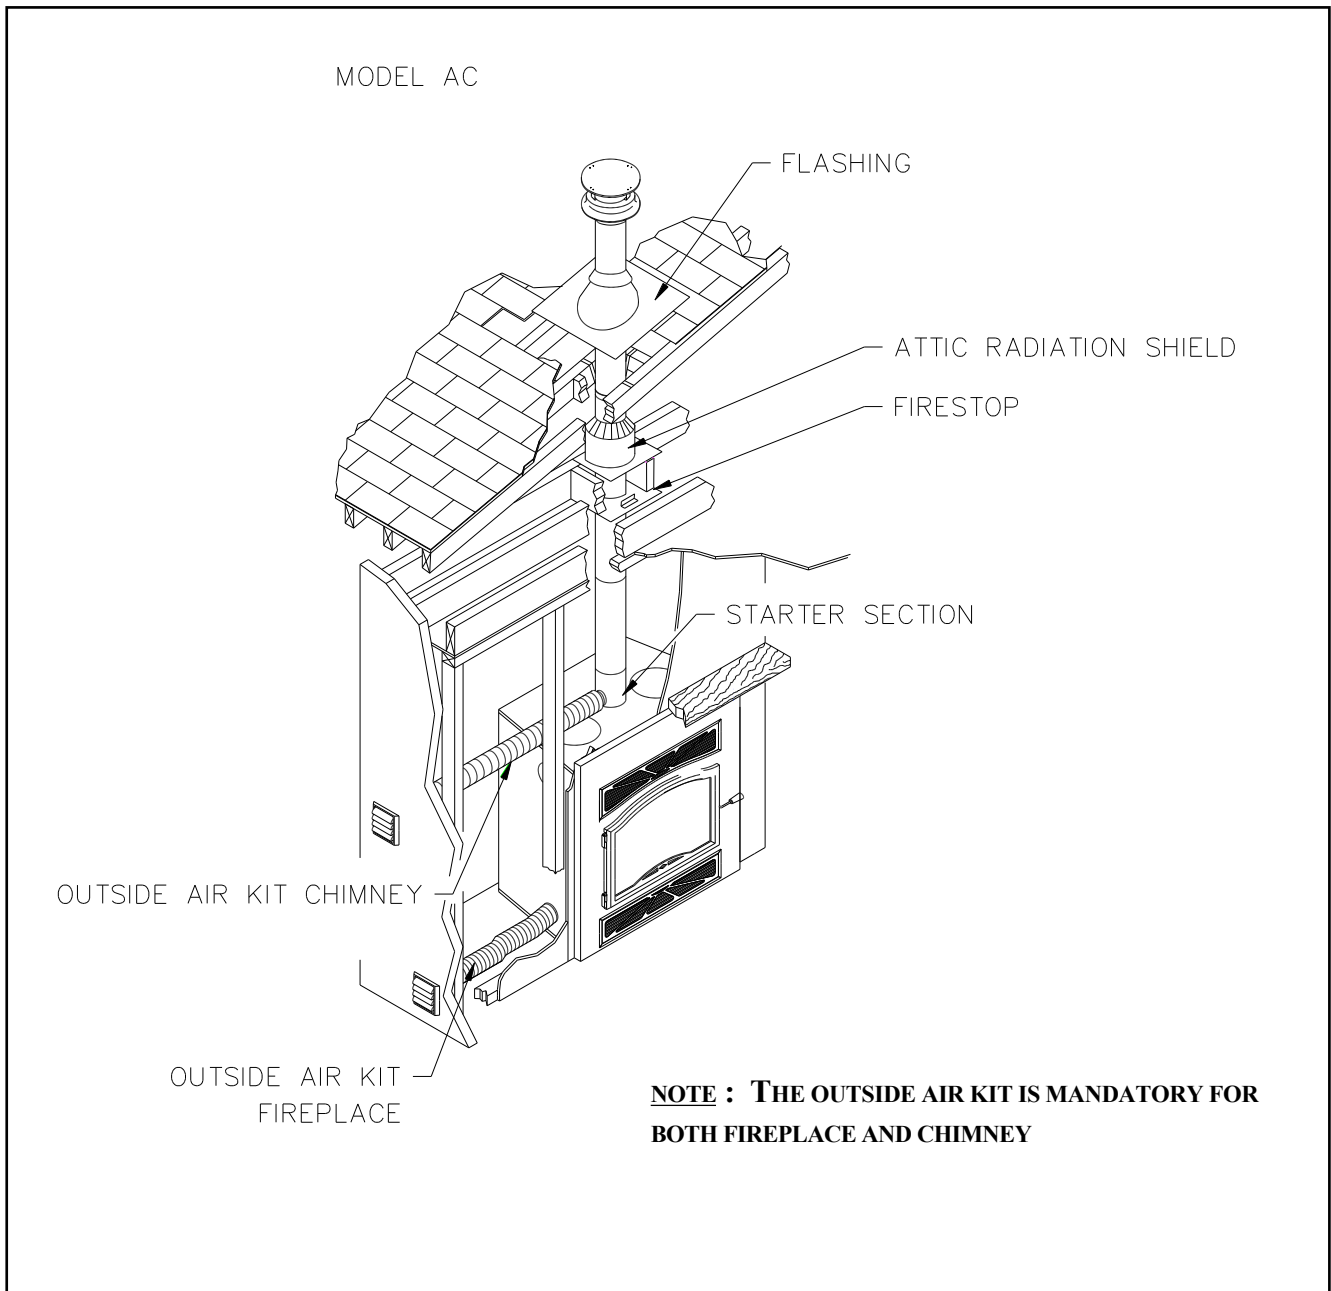

Figure 28
3. For Secure Temp^{ASHT+} / Nova Temp^{HT6103+} and Secure Temp^{S2100+} / Nova Temp^{HT6000+} chimneys, place the first chimney length on the fireplace. To lock it in place, turn $\frac{1}{4}$ of a turn clockwise. With the ACBI chimney, you must use a starter section before installing the first chimney length (figure 28). Continue installing chimney lengths making sure to lock each length in place.